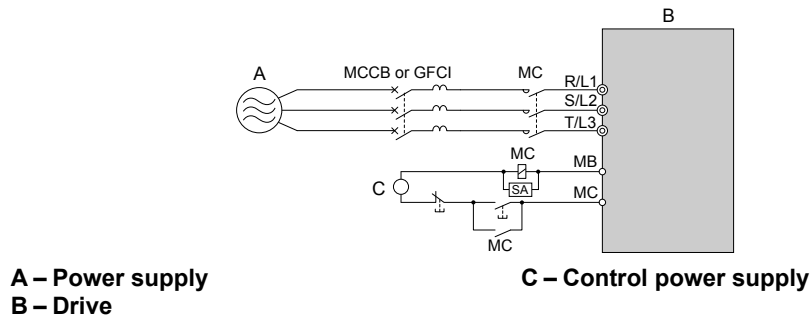

Figure 8.20 Power Supply Interrupt Wiring (Example)
- If several drives are connected to one MCCB or GFCI that is shared with other equipment, use a sequence that shuts the power OFF when errors are output by using magnetic contactor (MC) as shown in Figure 8.20.